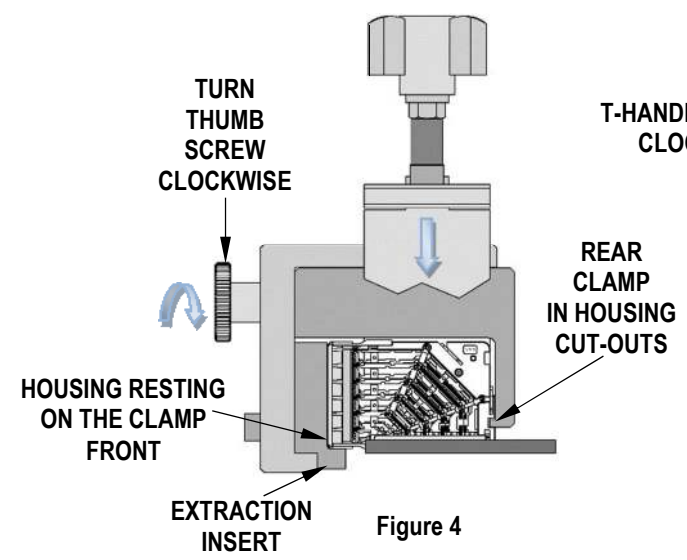

Figure 4
3. Position the rear clamp so that it is flush with the side of the outer wafer. The “teeth” of the rear clamp should fit snugly in the cutouts of the wafers. See Figure 4.